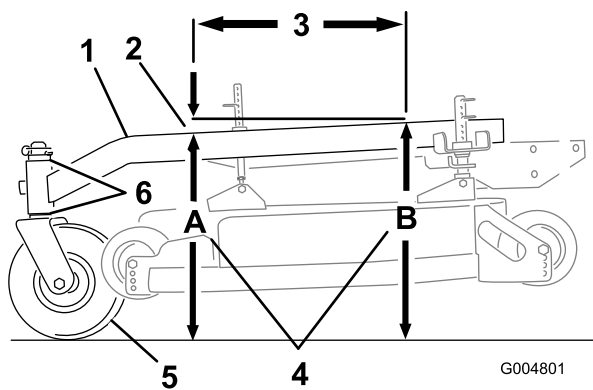

Figure 62
The carrier frame must have a pitch between 1/8 inch (3 mm) to 3/8 inch (9 mm) over the length of 24 inches (61 cm) on the carrier frame (Figure 62).
1. Measure out 24 inches (61 cm) on the carrier frame (Figure 62).
2. Measure carrier frame height at location **A** (Figure 62).
3. Measure carrier frame height at location **B** (Figure 62).
4. The height at location **A** must be a 1/4-3/8 inch (6 mm -10 mm) lower than location **B** (Figure 62).
5. If the carrier frame is not correct, move caster spacers to make it a 1/4-3/8 inch (6 -10 mm) pitch (Figure 62). Move spacers from top or bottom to make the correct pitch.